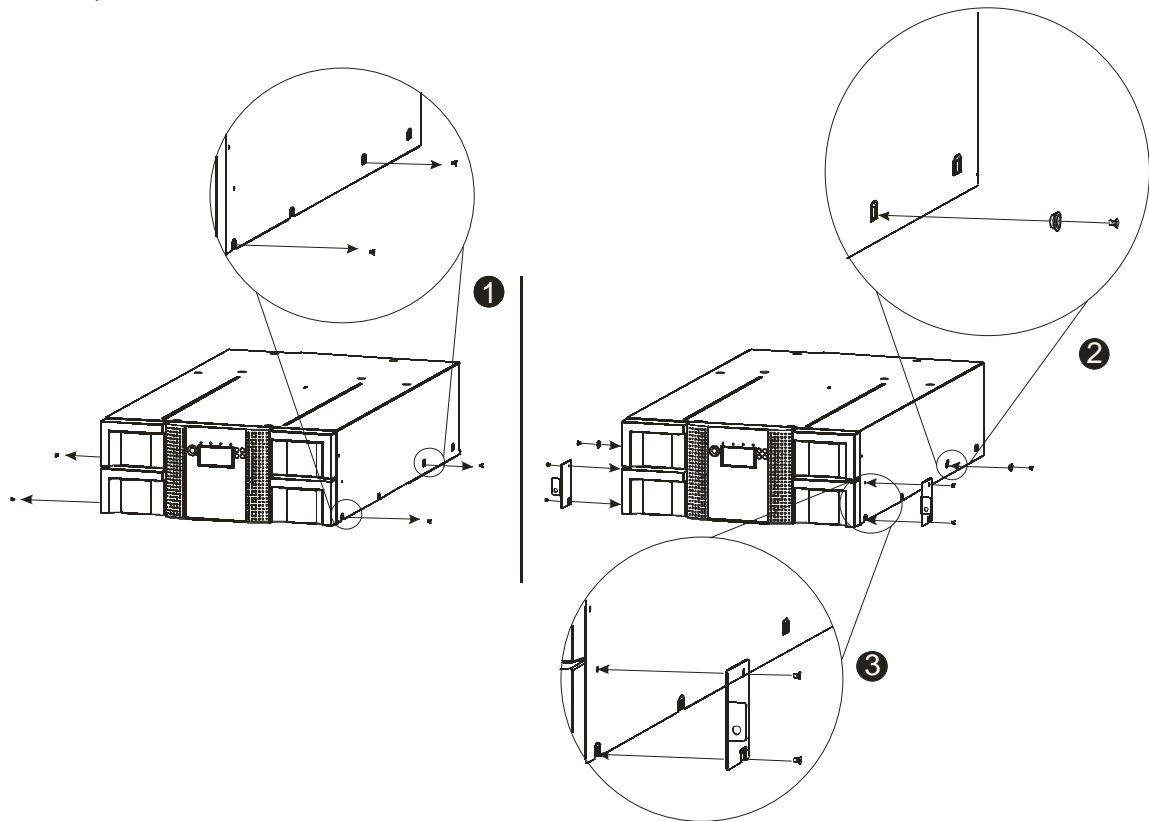

Figure 15 *Installing the mounting brackets and guide pulleys*
1. Using the Torx screwdriver, remove the screw on each side of you Library. Shown in Figure 15 step1.
1. Install the Library guide pulleys on each side of the Library using the 2 Torx screws included in the rack kit (see Figure 15 step 2).
Install the mounting brackets of the Library using the 4 Torxs screws included in the rack kit. Shown in Figure 15 (step 3).